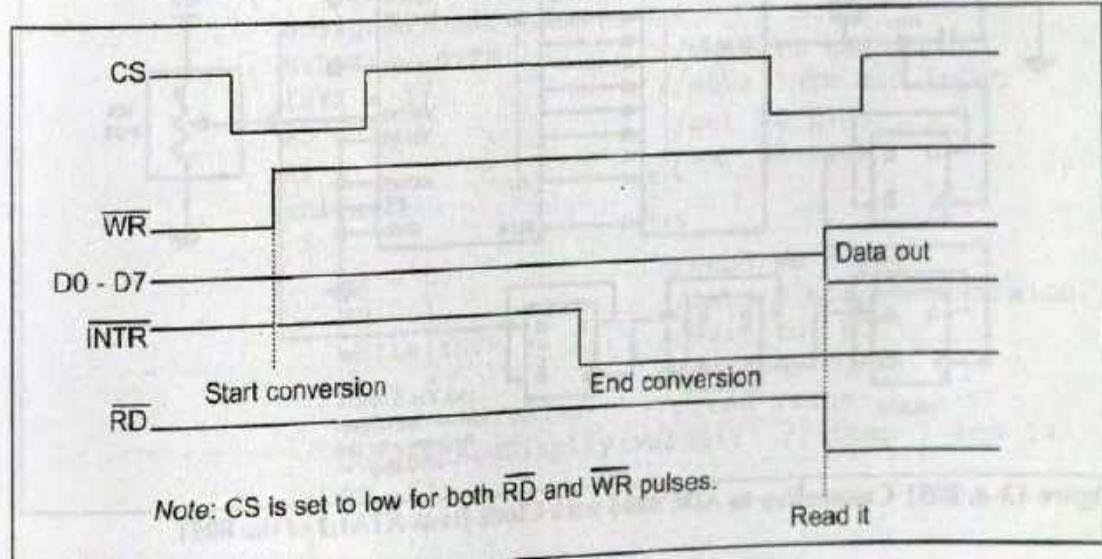

Figure 13-2. Read and Write Timing for ADC0804
3. After the INTR has become low, we make CS = 0 and send a high-to-low pulse to the RD pin to get the data out of the ADC0804 IC chip. The timing for this process is shown in Figure 13-2.